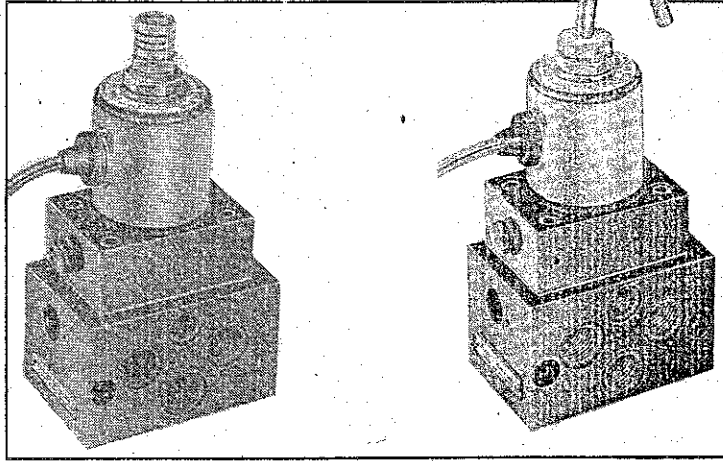

Fig. 4.
9. If dirt is expected in the surrounding area, please do not mount our Valves there, for the EXHAUST-PORT of the PILOT Ports need protection against it. Small Mufflers or Screwed-in-Angle-Tubes are very suitable to this purpose, Fig. 4, and UPSIDE DOWN MOUNTING of the Valves are also suggested.